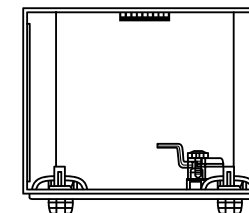

Figure 2
- The hand-screw locking effect is shown in Figure 2 below. \